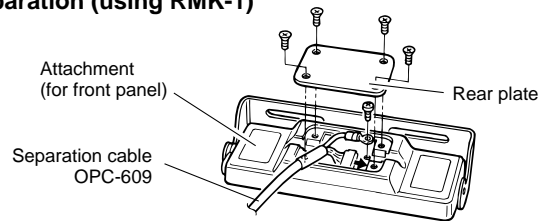

Fig. 1
- ① Separate the front panel from the transceiver main unit using an allen-wrench (1/32 in).
- ② Connect the optional OPC-609 cable to the both front and main unit attachments (fig. 1 and 2).